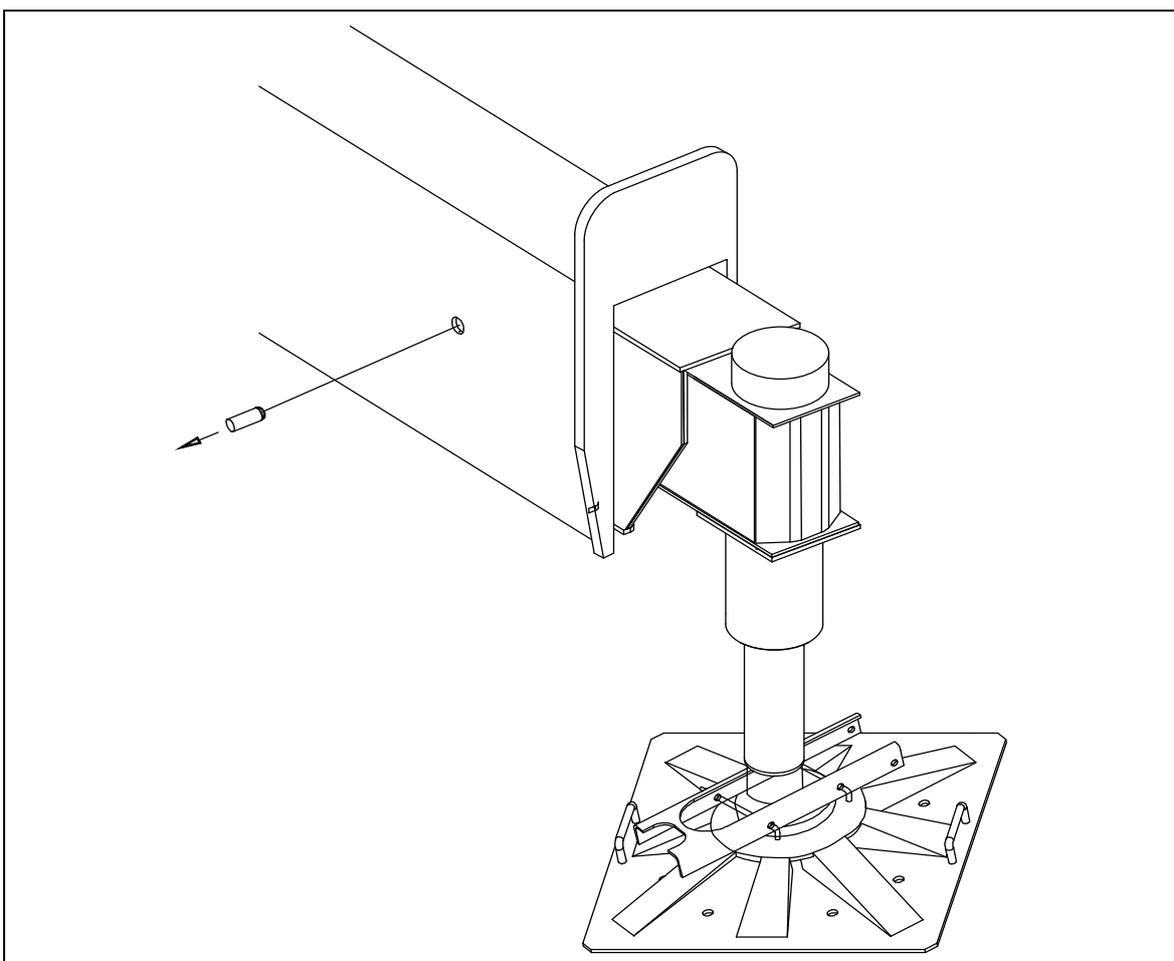

Figure 3-57 Retaining pins removal
- b) Remove the retaining pins from the sliding beams (Refer to Figure 3-57).